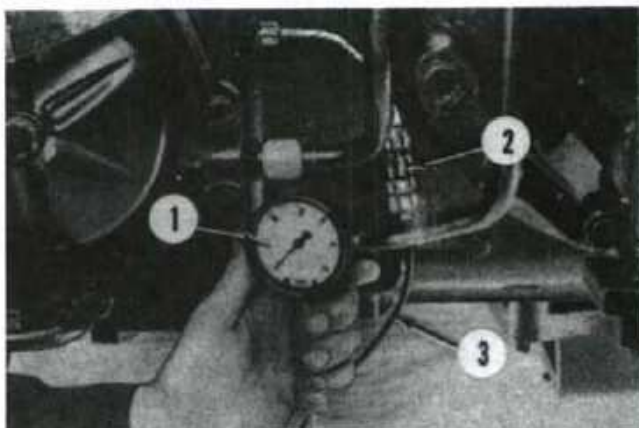

Fig. 148—Pressure gage connected to tee to check pto clutch pressure.
**126.** To check operating pressure, operate tractor until hydraulic fluid is warmed to at least 100° F (38° C). Refer to Fig. 148 and connect a 0-300 psi (0-2000 kPa) pressure gage (1) to the tee fitting (2). Start tractor and operate at low idle speed. Move pto control lever forward to engaged position. Pressure reading